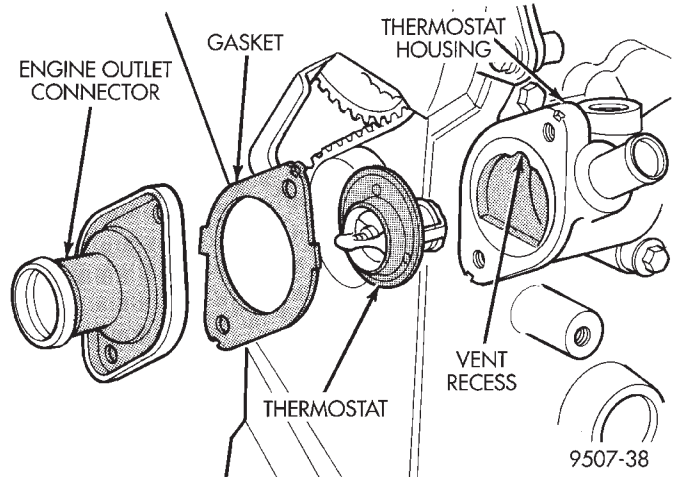

Fig. 29 Thermostat, Housing, and Outlet Connector—2.4L Engine
- (1) Drain cooling system down below the thermostat level. Refer to Draining Cooling System in this group.
- (2) Remove thermostat housing bolts and housing (Fig. 29).
- (3) Remove thermostat, discard gasket and clean both gasket sealing surfaces.
- (1) Place a new gasket (dipped in clean water) on the engine outlet connector surface. Center the thermostat in thermostat housing (Fig. 29).
- (2) Place the engine outlet connector and gasket over the thermostat, making sure thermostat is seated in the thermostat housing.
- (3) Bolt outlet connector to thermostat housing (Fig. 29). Tighten bolts to 28 N·m (250 in. lbs.).
- (4) Refill the cooling system to the proper level. Refer to Refilling Cooling System outlined in this section for procedure